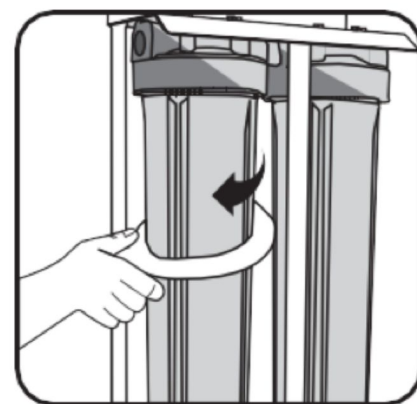

Figure 2. Unscrew the housing counterclock wise
- Open the housings: Slide the spanner underneath the first housing and twist the housing counterclock wise. Once is unlocked, unscrew the housing using both hands (Figure 2).